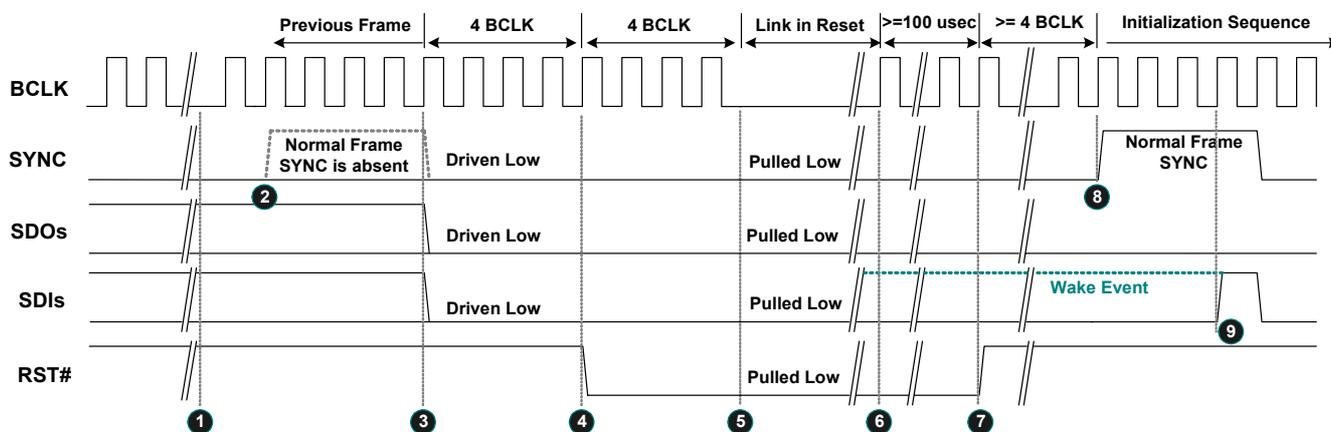

Figure 11. Link Reset Timing
3. Software initiates power management sequences. Figure 11, page 15, shows the 'Link Reset' timing including the 'Enter' sequence (①~⑤) and 'Exit' sequence (⑥~⑨)